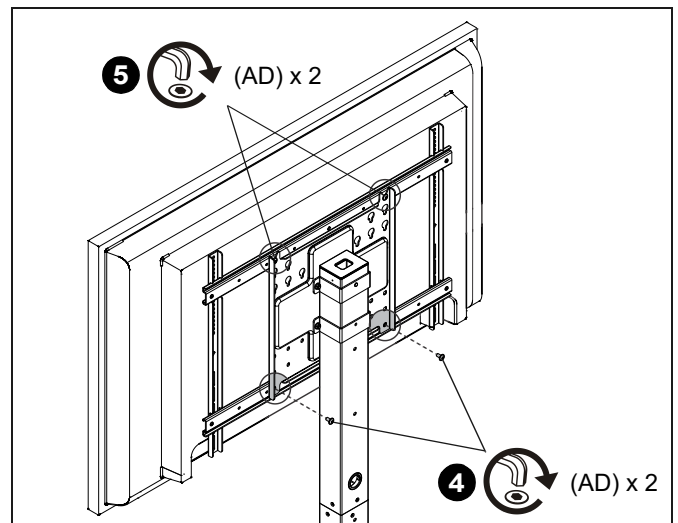

**Figure 13**
3. Lower display into place, making sure the screws are properly seated in lower areas of mounting holes. (See Figure 13)